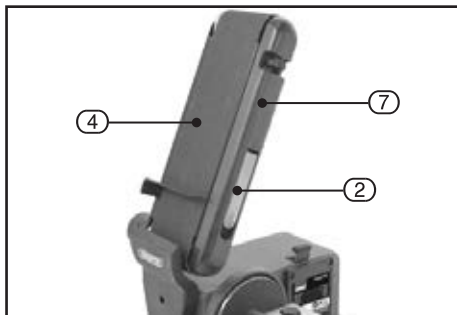

FIG.16
9.7 REPLACING THE SANDING BELT - FIG. 16